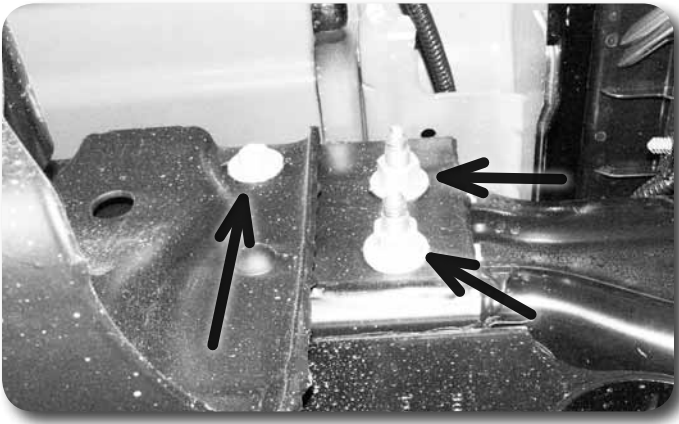
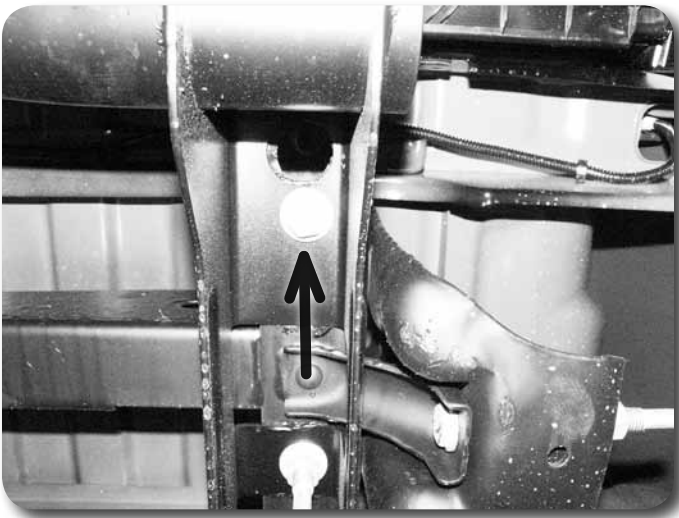

Figure 4A
Figure 4B
6. Remove the 4 bolts (8 total) mounting the rear bumper to the frame rails. 3 are accessed from the side of the frame Figure 4A and one up through the bottom Figure 4B. Remove the bumper from the vehicle. Save all hardware.